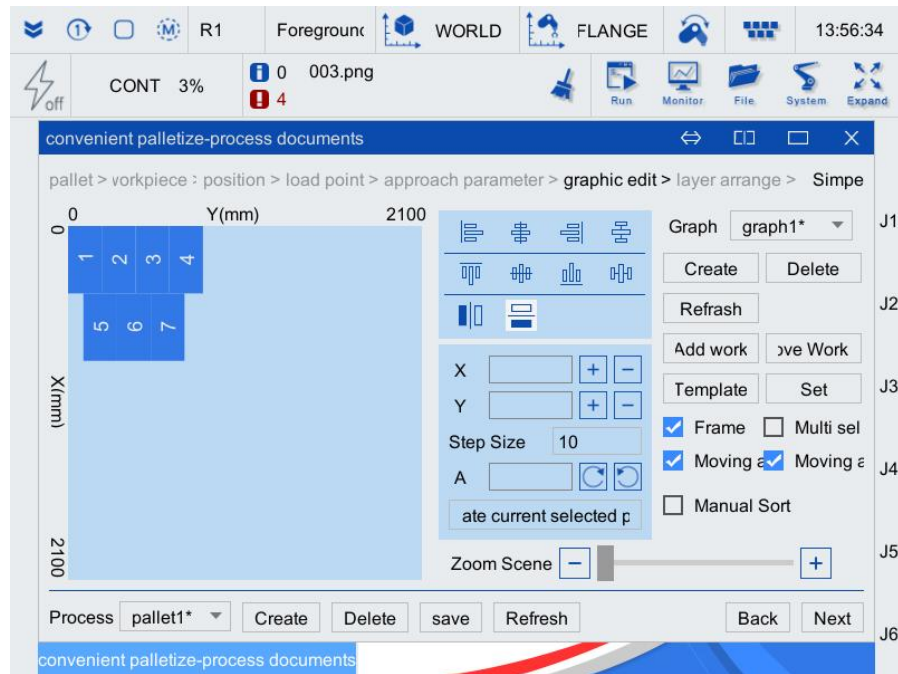

Figure 3-33 Graphic editing interface for adding workpieces 5~7 by pressing seam
Step7. Drag the workpieces with the stylus to make the arrangement of workpieces as shown in Figure 3-33.